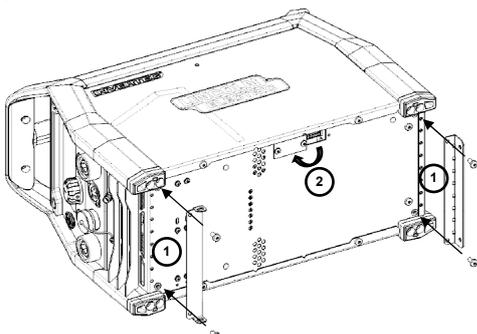

Figure 1
1. Place the adaptor metal sheets under the power source (Figure 1).
2. Remove the screw of hatch and turn it at 180°C. Use the removed screw to fix the hatch on Power Source (Figure 1).